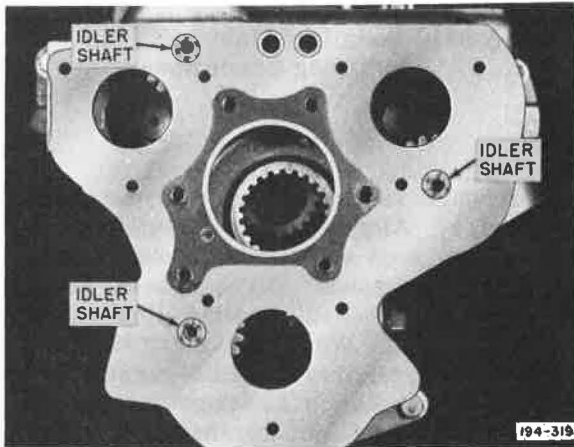

Figure 5-615. Final Seating of Idler Gears
1. With transmission rear case on a clean bench, position reverse idler gear shafts so that flats on end of shaft are pointing towards center line of countershaft bore. Start shafts into case. Assemble roller bearing in idler gear. Position the assembled gear in case (rounded teeth of idlers forward) with thrust washers at each end. Advance shaft into case through thrust washers and gear. For final seating of idler gear shafts, see Figure 5-615.